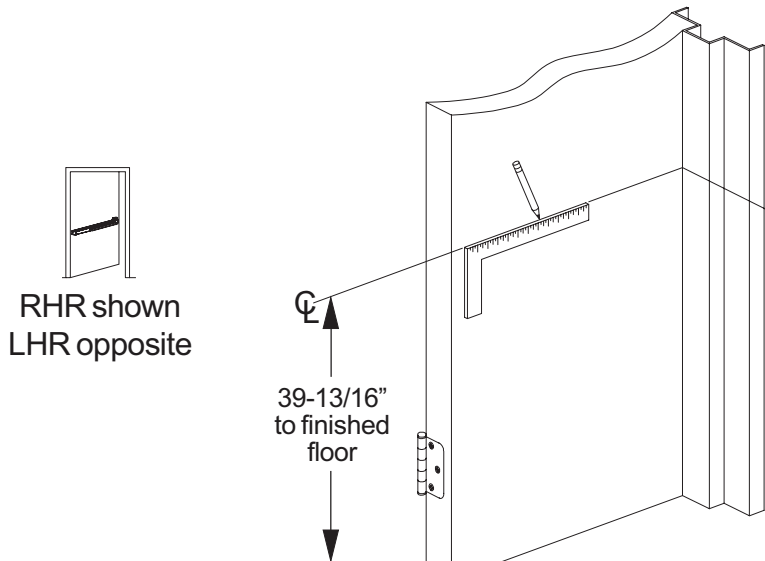

Figure 1-1
1.1. Mark centerline \mathcal{C} location as shown in Figure 1-1.